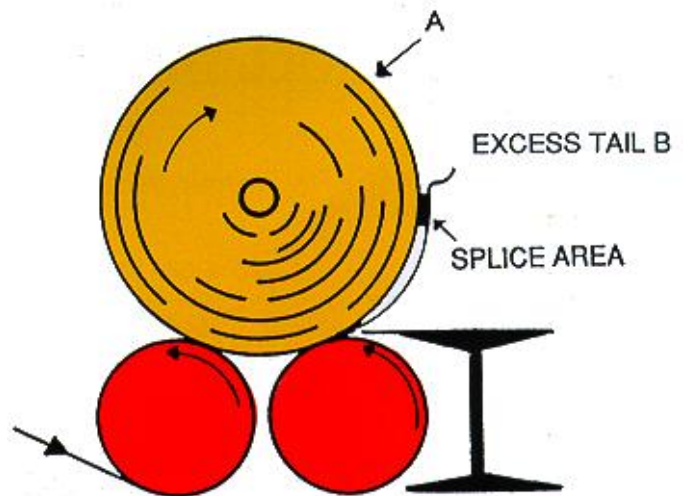
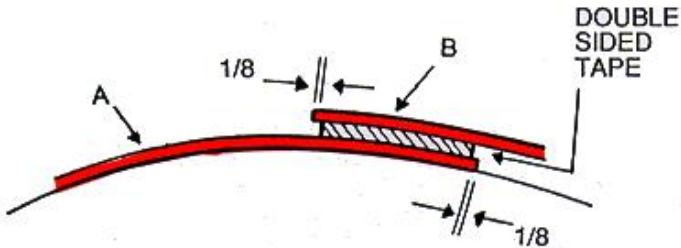

Figure 13
Figure 14
7. Take hold of old roll tail "B" and pull it up snug and flat against contact tape. Do this for each slit making sure each tail is snug and flat, then hand rub to ensure bond. Figure 13. Tear off excess roll tail "B". Figure 14.